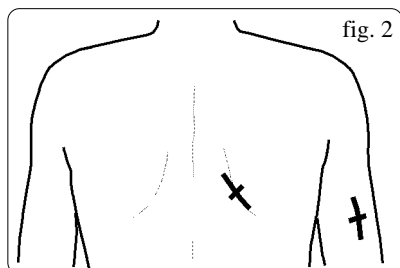

fig. 2
- **Triceps and subscapular for the male sex (see fig. 2)**
Oblique skin layer at 45°, in the direction from upper-medial to lower-lateral, measured just under the scapular point (shoulder). (fig. 2)